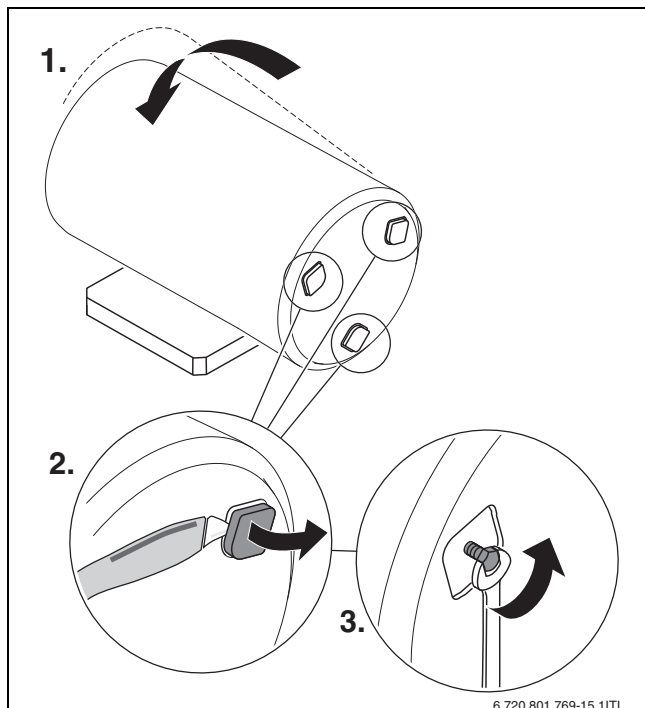

Fig. 7 Lay down the DHW tank and expose the adjustable feet
- Carefully lay the tank on the foam pad (→ Fig. 7, [1]).
- Cut out the projections in the foam bottom (→ Fig. 7, [2]).